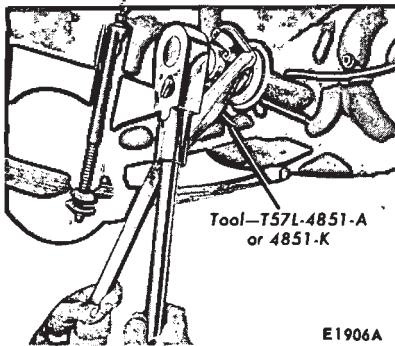

FIG. 10—Removing or Installing Drive Pinion Nut
4. While holding the flange with the tool shown in Fig. 10, remove the
14. Hold the flange with the tool shown in Fig. 10 while tightening the nut.
4. While holding the flange with the tool shown in Fig. 10, remove the integral pinion nut and washer.
shown in Fig. 10 while the nut is being tightened.
13. Hold the drive pinion flange and remove the pinion nut (Fig. 10).